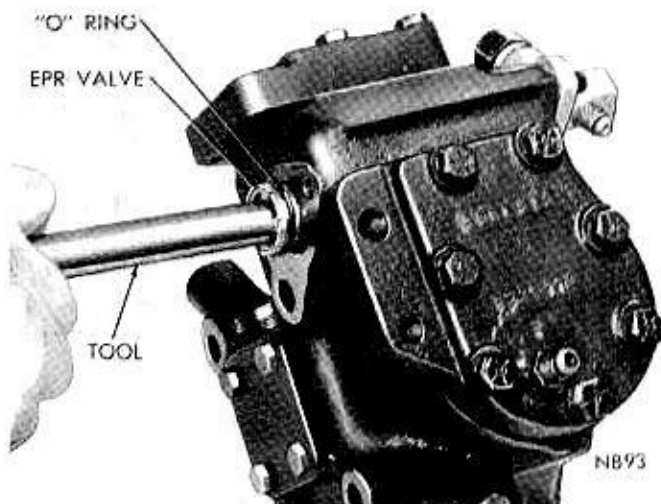

Fig. 6—Removing the EPR Valve
(2) Remove the "EPR" Valve and "O" ring from the compressor using Tool C-3822, by rotating the valve counterclockwise slightly (Fig. 6).